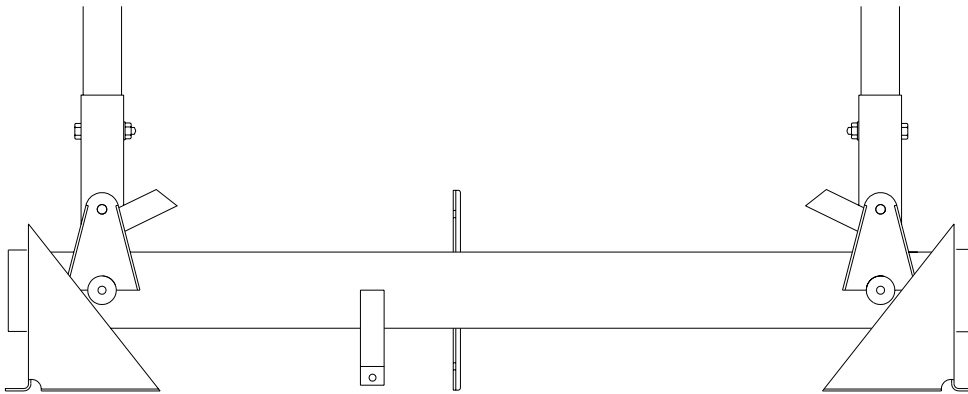

Figure 20.3.9
12) Place a bearing base assembly on each end of the control torque tube assembly. Figure 20.3.9.